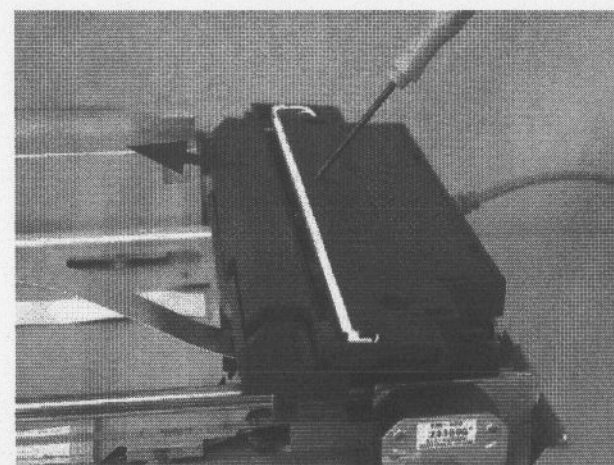

Figure 4-12. Disassembly of the Carriage Unit (2)
4. Remove the carriage unit upper cover by lifting it up and pulling it forward with the (-) screwdriver. (See Figure 4-12.)